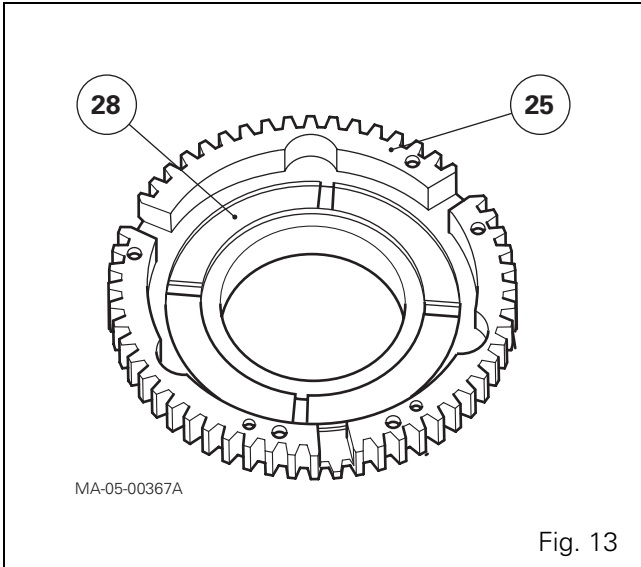

Fig. 13
27. Remove the piston (28) by lightly tapping the cover plate (25) on a wooden block or using a jet of compressed air (Fig. 13).
28. Remove the seals (26) and (29) and discard them.